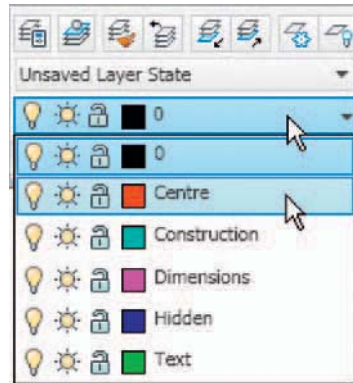

Fig. 7.5 Making the **Centre** layer current from the **Home/Layers** panel
4. In the **Home/Layers** panel, in the **Layer list** click on **Centre** to make it the current layer (Fig. 7.5). All lines will now be drawn as centre lines.